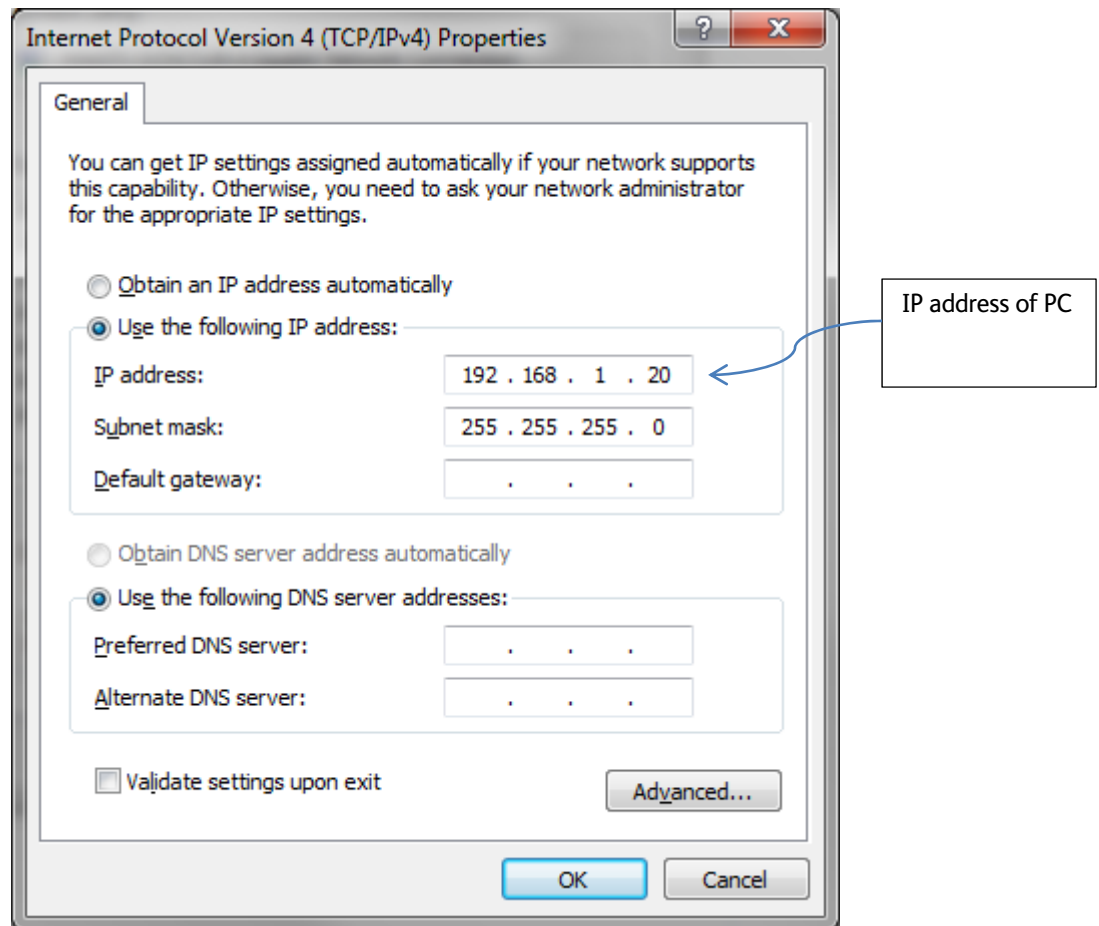

Figure 41 - Static IP Address
- Check the **"Use the following IP address" radio button**. This sets the PC for static addressing. Then enter a class C address such as **192.168.1.20** under the "IP address" text box. Click in the "Subnet mask" text box and the PC should automatically set the subnet mask associated with the class C addressing. See Figure 41.
- The IP address set for the PC as shown above in Figure 41 is *its* static IP address (192.168.1.20), **do not enter the IP address of the M2TE here**. The IP address of the PC must be different from the M2TE IP address; you cannot have two different devices with the same IP address on a network. The “192.168.1” portion of this address shows that it is a class C address with a network ID of **192.168.1.0**. The “.20” portion states the *host* information. Host information can be set from 1 to 254. Zero (0), and 255 are usually reserved or have special meaning, so do not use them. Hence as long as the network ID is the same as the M2TE the PC will be able to communicate with the M2TE. So I could set the IP address of the PC to 192.168.1. <1-254> and it still would be able to communicate with the M2TE. For example instead of using 192.168.1.20, I could use 192.168.1.30 or 192.168.1.5 or 192.168.1.60, etc.